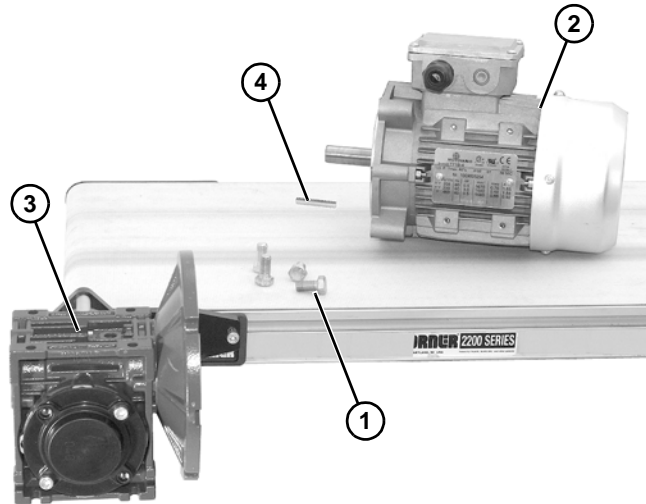
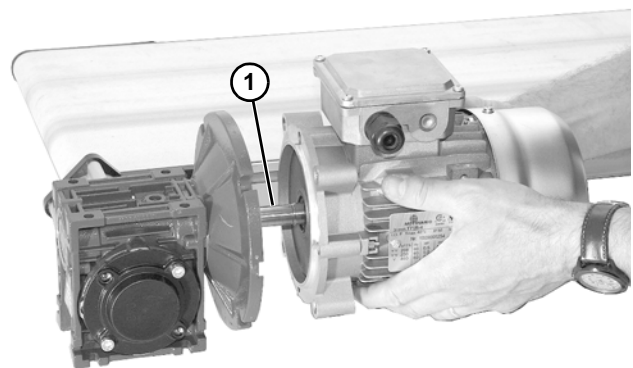

Figure 37
Figure 38
4. Remove four screws (Figure 37, item 1). Detach motor (Figure 37, item 2) from gear reducer (Figure 37, item 3). Retain motor output shaft key (Figure 37, item 4).
5. Apply anti-seize to motor shaft before assembling to gearbox. With key (Figure 38, item 1) in keyway, slide motor and gear reducer together. Install screws (Figure 37, item 1) and tighten.